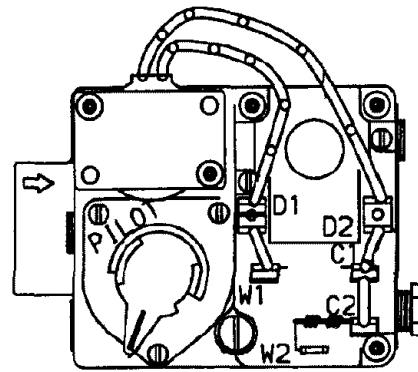

Fig. 36 — Gas Valve (48PG08-14 Shown)
6. Remove screw cap covering regulator adjustment screw (See Fig. 36).